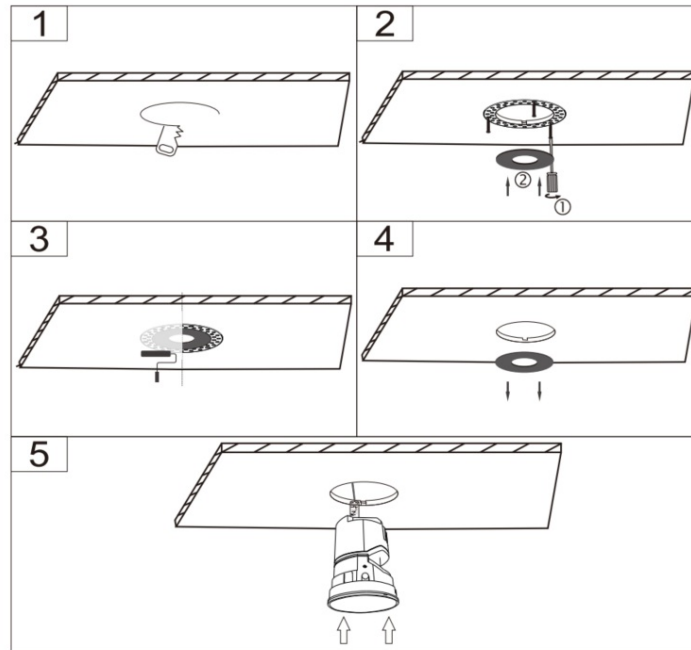

Figure 3
Step 3: After the installation of the outer ring (embedded parts) is completed, paint the ceiling to make the outer ring invisible (see Figure 3 below);